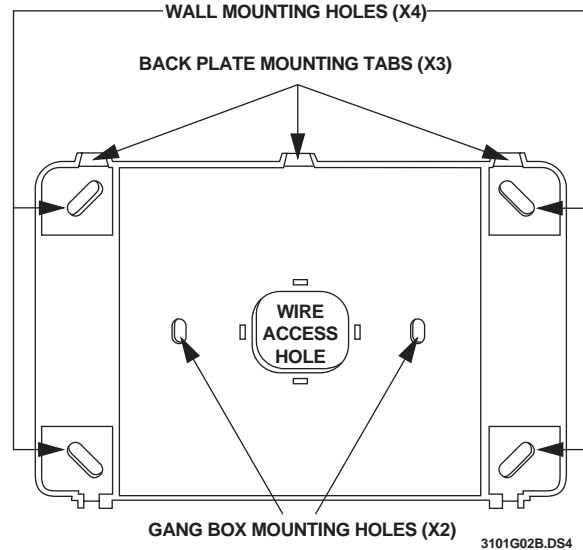

Figure 2. Back-Plate and Mounting Holes
2. Place the back-plate on the wall and mark the four mounting holes and the wire access hole (see Figure 2). Be sure to leave a 1-inch clearance on all sides of the back-plate.
2. Line up the gang box mounting holes with the holes on the gang box (see Figure 2).